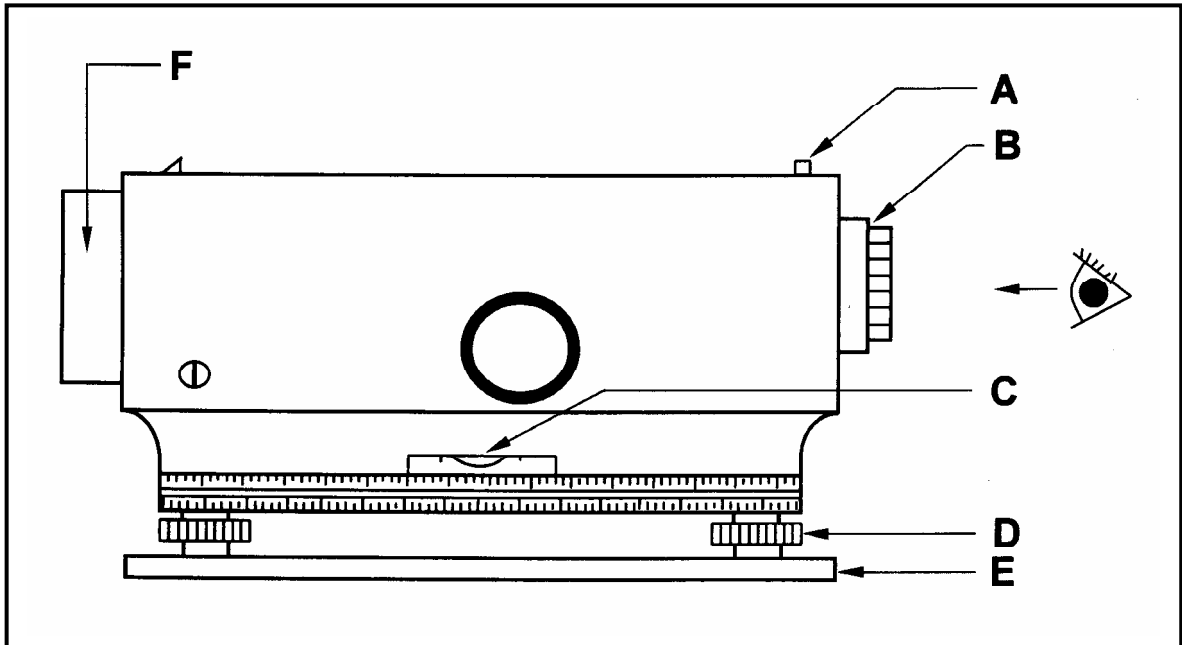

FIGURE 1.2
1.2 FIGURE 1.2 below shows a dumpy level. Study the illustration and answer the questions that follow.